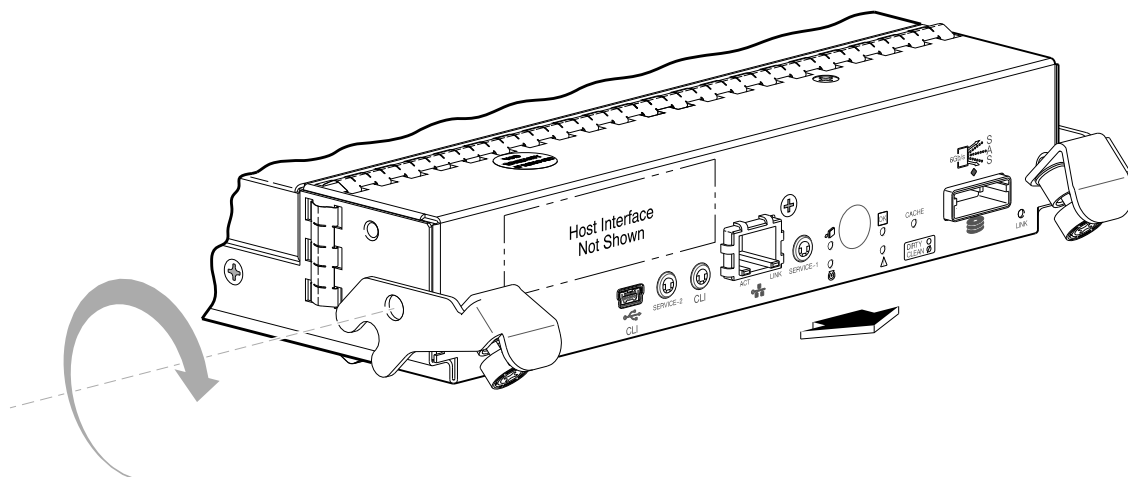

Figure 17 Extracting a controller module
5. Press both latches downward to disconnect the controller module from the midplane (see Figure 17).